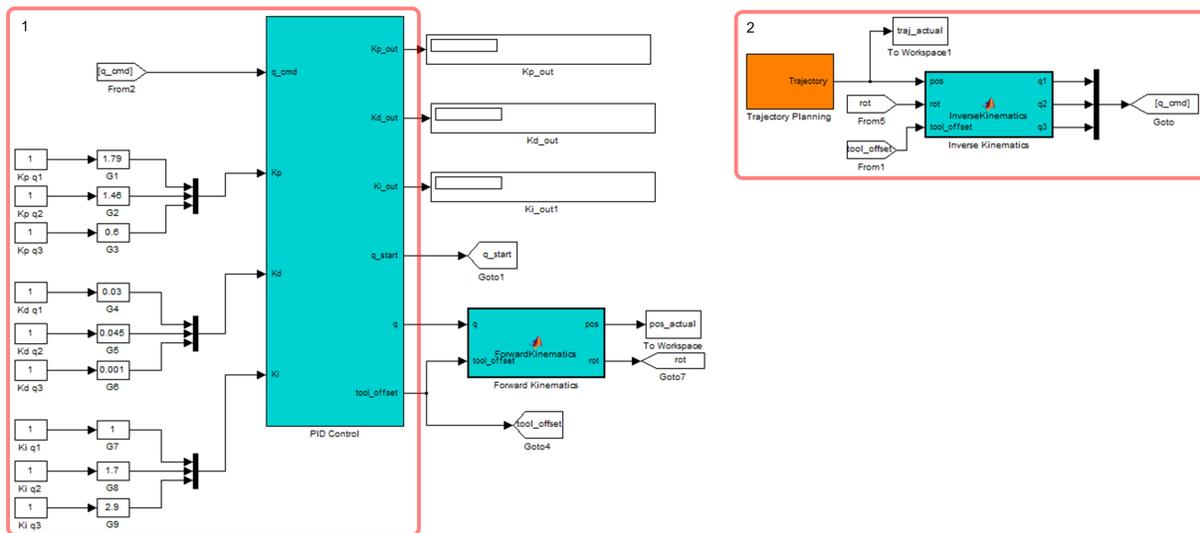

Figure 7.1: Task space trajectory follower model
1. Open **Teach_Pendant_Task_Space.mdl**, shown in Figure 7.1.